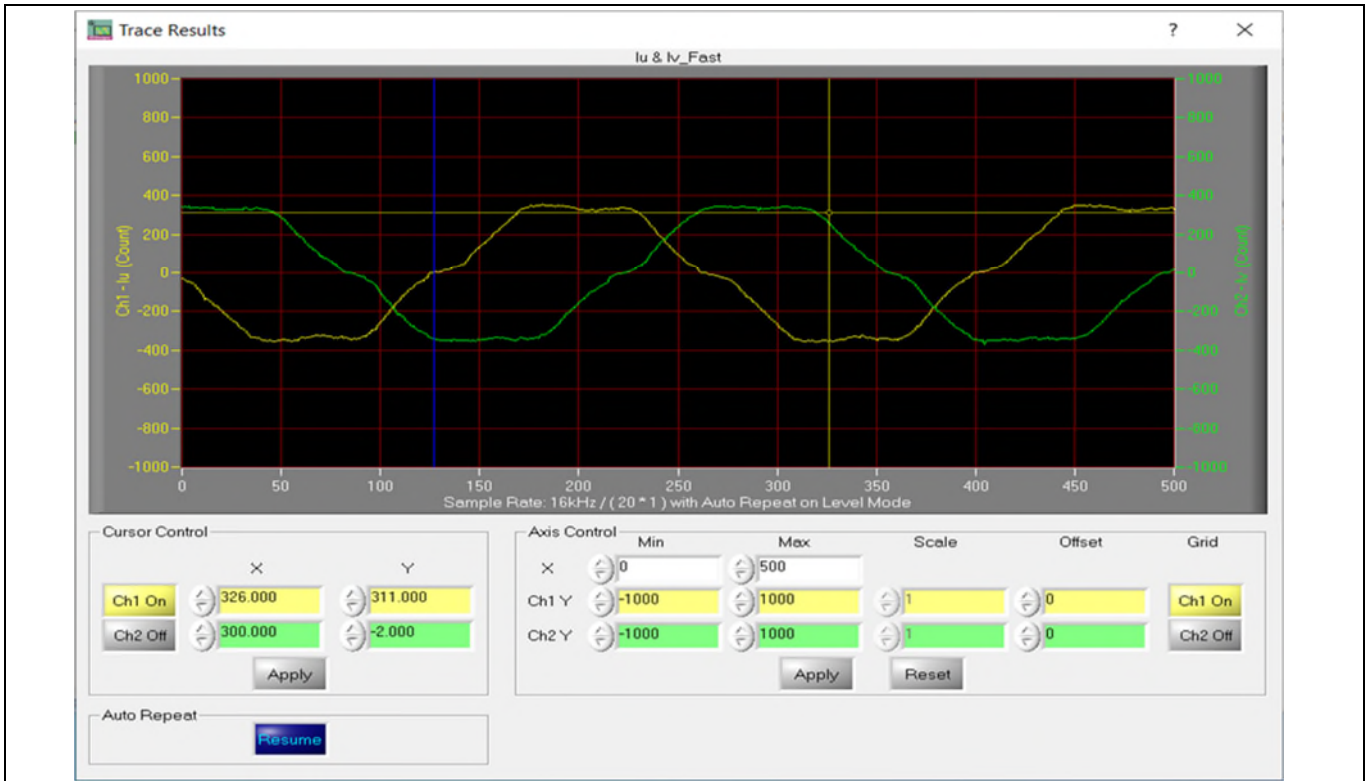

Figure 10 Trace waveform for I_u & I_v open loop diagnostic
- 11. Open System Page > Monitor Definitions and double-click **I_u & I_v Slow**. The motor current feedback should be clean and sinusoidal, as shown in Figure 10. If not, please tune the Gating Propagation Delay & Phase Shift Window Size in the MCEWizard. The sampled motor-current noise amplitude should be less than 50–100 counts (below 5% of the motor current or below 5% of the maximum AD (Analog to Digital converter) range, which is 2048 counts.) If not, the motor current sample-related hardware and the setup need tuning. The VF Diagnostic sub-function can verify whether the: